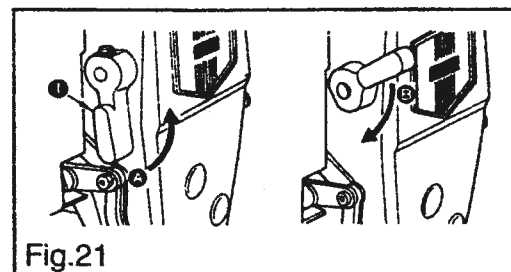

Fig.21
1)Loosen setscrew ② , and remove tension post ② .
2)Loosen setscrew ③ .
3)As you turn tension post ④ clockwise (in direction ➒), the pressure will be increased.
17.HAND LIFTER(Fig.21)